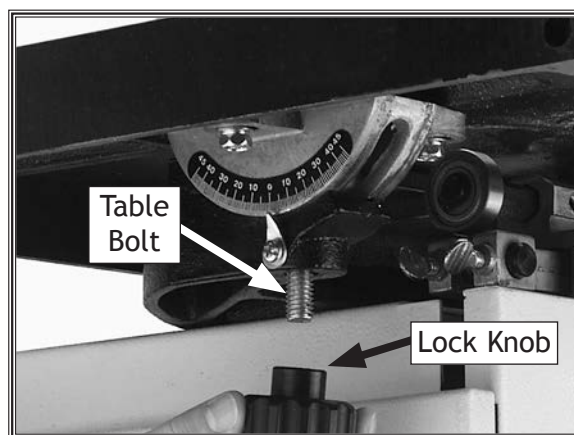

Figure 9. Installing the table onto the trunnion base.
7. Rotate the table so that the table slot faces to the right, then insert the table bolts through the mounting holes in the trunnion base, as shown in **Figure 9**.